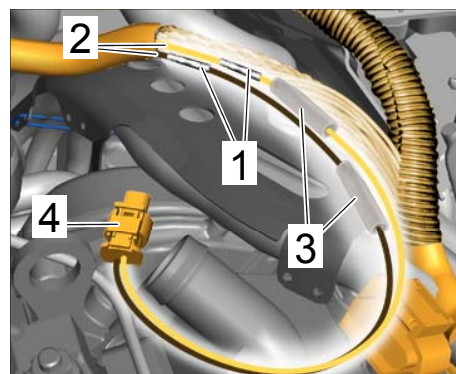

Figure 17
- 5.18 Crimp insulated cable connection ⇒ *Figure 17 -item 1-* using the **crimping pliers** from the **Nr.155-1 Pos.1 - cable repair kit** to the wires of the connector ⇒ *Figure 17 -item 4-* from the repair kit.
- 5.19 Slide shrink-fit hoses ⇒ *Figure 17 -item 3-* onto the connector wires ⇒ *Figure 17 -item 4-*.
- 5.20 Crimp connector wires ⇒ *Figure 17 -item 4-* to the main wire harness wires ⇒ *Figure 17 -item 2-* using the **crimping pliers**. Check the crimp connection carefully.
- 5.21 Slide shrink-fit hoses $\Rightarrow$ *Figure 17 -item 3-* over the crimp connection and carefully shrink them using the **hot-air blower and attached reflector**.